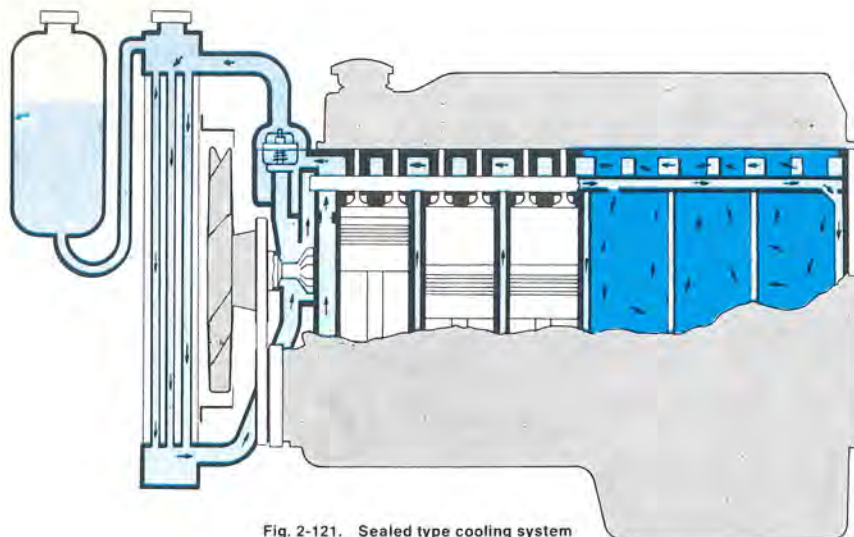
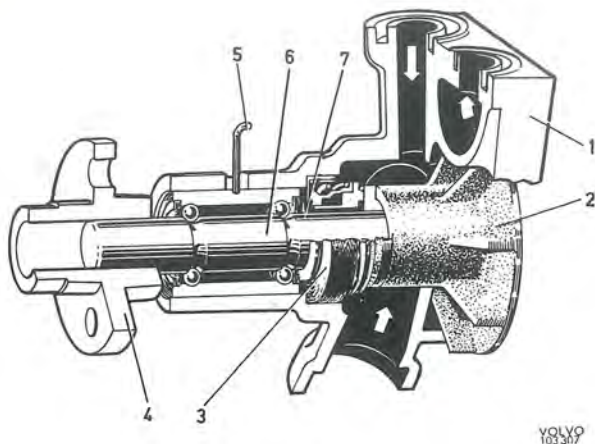
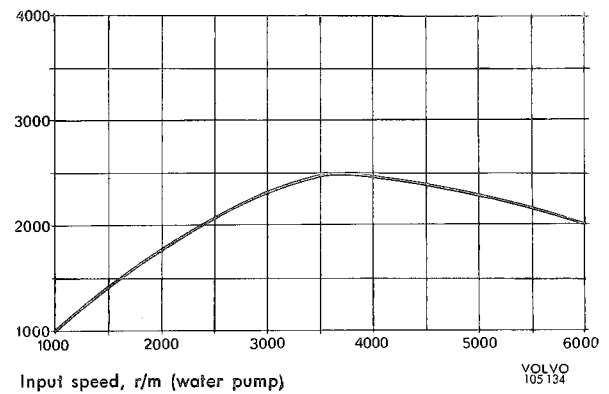

Fig. 2-121. Sealed type cooling system
Fig. 2-123. Water pump
Fig. 2-128. Curve for fan coupling slip
The engine is water-cooled and the cooling system is of the sealed type, see Fig. 2-121. A fan cover mounted on the radiator improves the cooling function of the fan. The fan is speed-regulated, a so-called slip-coupling type (see Fig. 2-122), the function of which is to ensure that the fan blades do not exceed a certain speed even if the engine speed is exceeded. See Fig. 2-128. The six fan blades are mounted asymmetrically to keep down the noise level. The fan coupling consists of the casing (11, Fig. 2-122) in which the fan blades (1) are secured with the bolt (2). The casing (11) has two halves which, however, cannot be separated for repairs, the fan coupling then being replaced complete. The hub (8) has a light fit on the water pump flange (6) and is locked by means of the center bolt (7). The hub is provided with a slip disc of friction material (9) surrounded by oil. During idling and at low speeds, the slipping is insignificant, so that the fan provides an air current for satisfactory cooling. When the ingoing speed (that of the water pump) exceeds about 58 r/s (3 500 r/m), the slipping increases (see Fig. 2-128). With this arrangement, the fan speed should never exceed about 41.7 r/s (2 500 r/m). The fan noise output would then be low compared with a fan which runs at the same high speeds as the water pump. Compared with this latter type of fan, the output loss will be less for the slip-coupling type fan. A centrifugal pump, Fig. 2-123, takes care of the coolant circulation and a twin operating thermostat provides rapid warming up of the engine and contributes to the